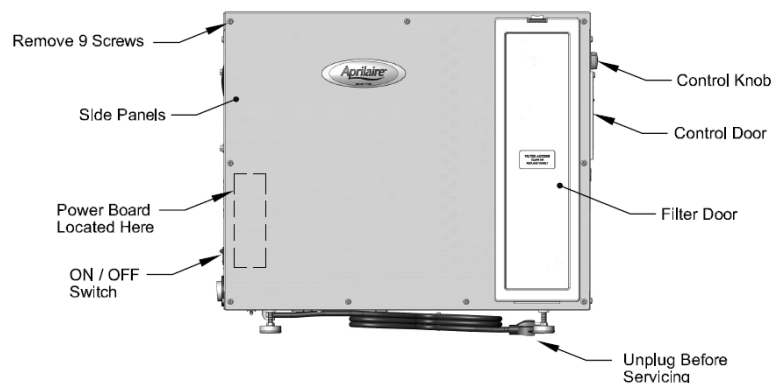

Figure 1- Right Side View
- Remove the filter door and side panel from the right side of the unit (power switch is to the left when viewing the right side of the unit – see **Figure 1**). Set both aside.